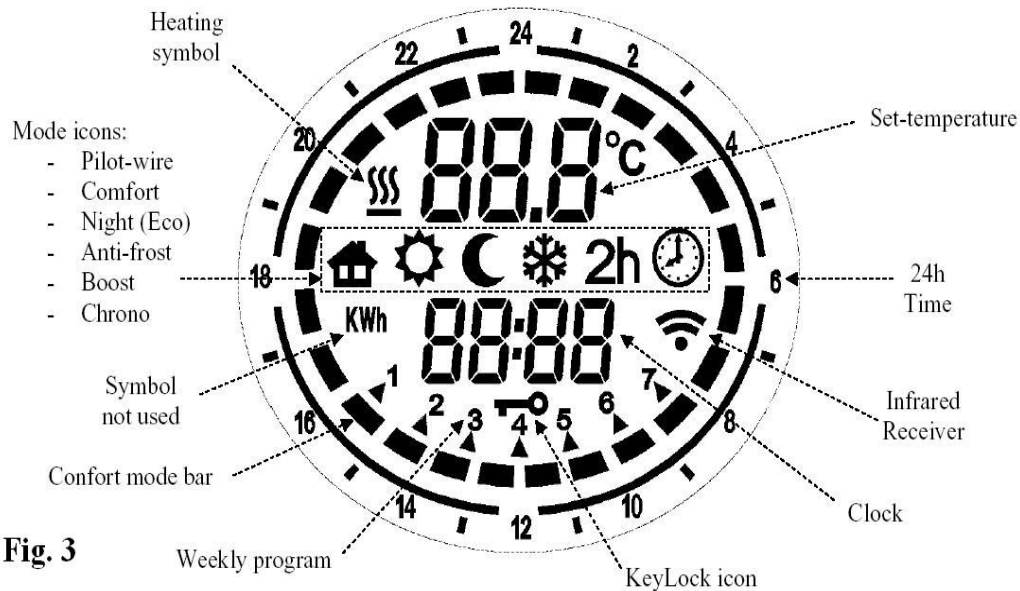

Fig. 3
- Press the [Prog] button (fig.1) until comfort mode icon appears on the display (fig.3)
- Press the [Prog] button (fig.1) until night icon appears on the display (fig .3)
- Press the [Prog] button (fig.1) until Anti-freeze icon appears on the display (fig.3).
The arrow indicating the current day (see fig.3) flashes: press [+] and [-] buttons (fig.1) to set the current day. Then press the [Prog] button (Fig.1) again to confirm.
Now an hourly sequence can be set for each day of the week (fig.3). Start with the first day, select the sequence required by means of the [+] and [-] button (fig.1) to choose, for each hour, between the 'comfort temperature' (full bar) and the 'night temperature' (empty bar). See picture below as reference.
When the 'Heating symbol' (see fig. 3) is displayed, the appliance is heating.
Press simultaneously [+] and [Prog] buttons (fig.1) for about 3 seconds to lock the keyboard. The key-lock icon will be shown on the display (fig.3).
To unlock the keyboard, press simultaneously the same two buttons for about 3 seconds once again, the key-lock icon will disappear from the display (fig.3).